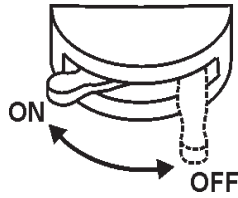

Figure 45. Battery ON/OFF Switch
7. Set the **battery ON/OFF switch** (Figure 45) to the “ON” position.